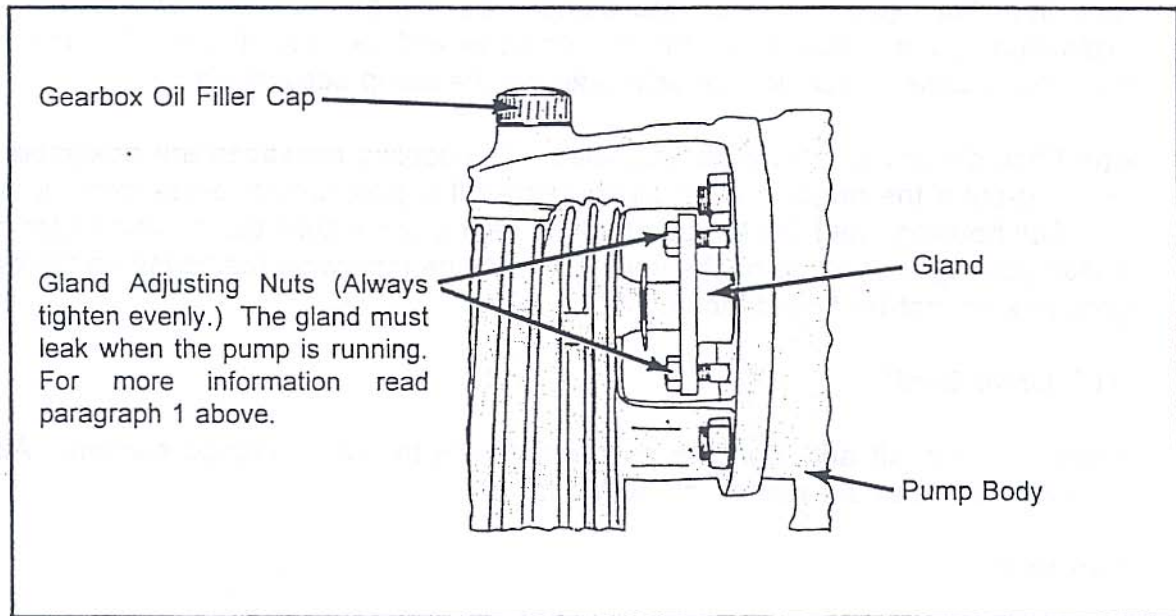

Figure 4. Stuffing Box
8. If the pump is fitted with a stuffing box, the gland is snug but not tight. For adjustment information see the Maintenance Section and Figure 4.